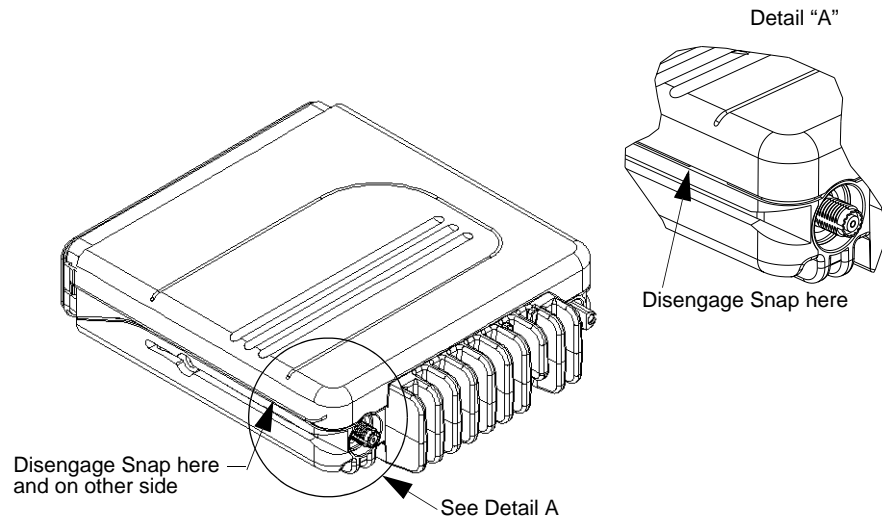

Figure 5-3. Removing the Top Cover - Mid Power Models
1. Insert a wide flat-blade screwdriver or like instrument in the recess area on the side of the radio near the RF and DC connector end (see Figure 5-3).